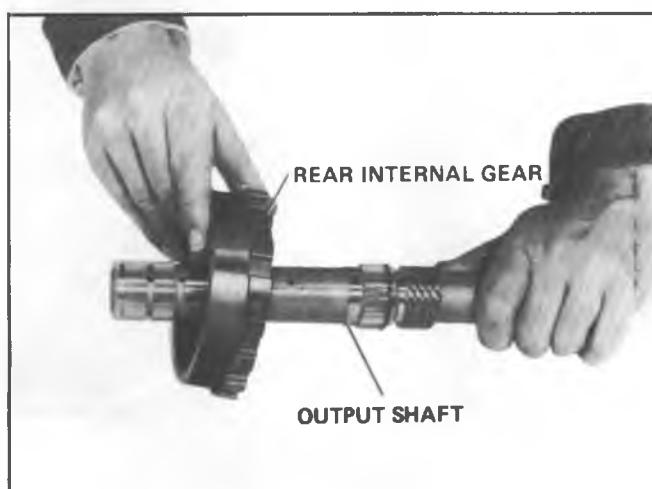

Fig. 7A-39A--Removing Rear Internal Gear
7. If necessary, remove real oil seal (Fig. 7A-40A).